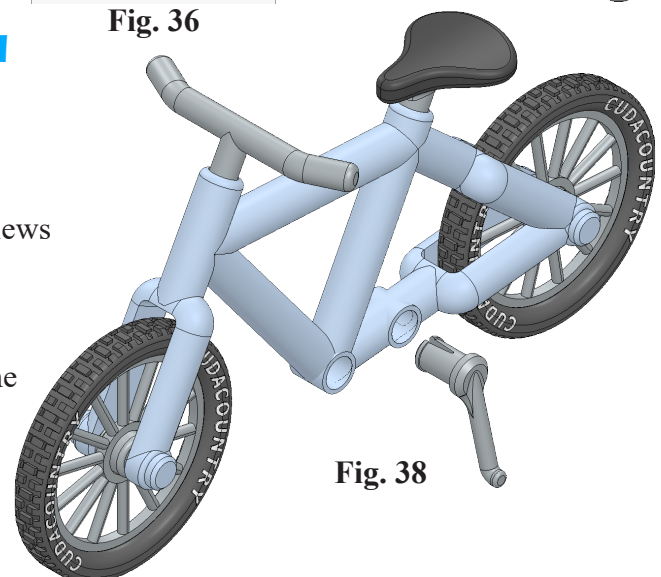

Fig. 38
Step 5. Click to place Kickstand as positioned in Fig. 38.